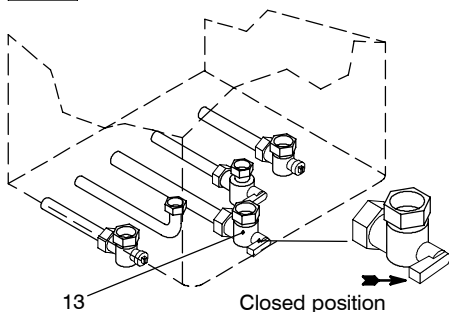

Fig. 8.1
- 1 Check that the gas cock (13 in Fig. 8.1) fitted under the boiler is turned off and the appliance is switched off at the mains isolating spur.